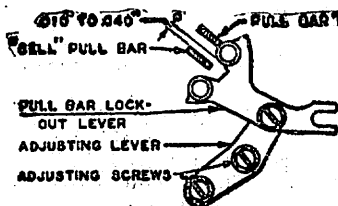

Fig. 20
4.32 Pullbar lockout lever: See Figs. 20 and 21.